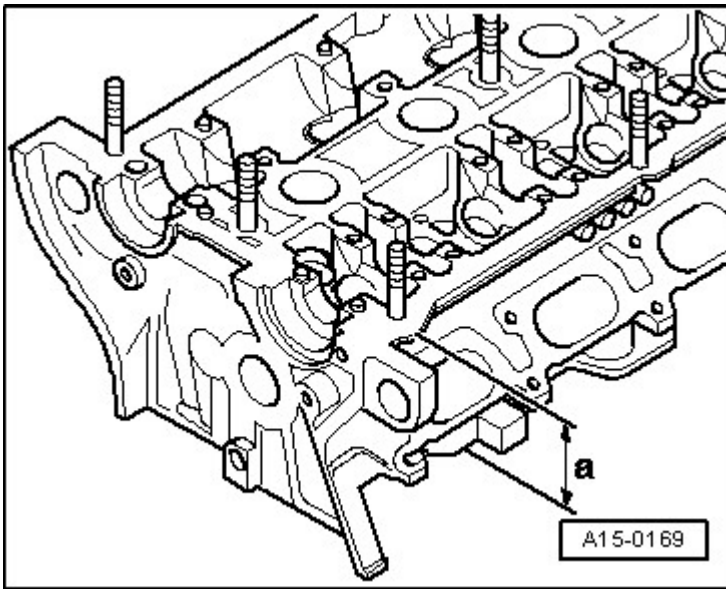

Fig. 15: Cylinder Head Refacing Dimension
- Reworking dimension, refer to **Fig. 15**